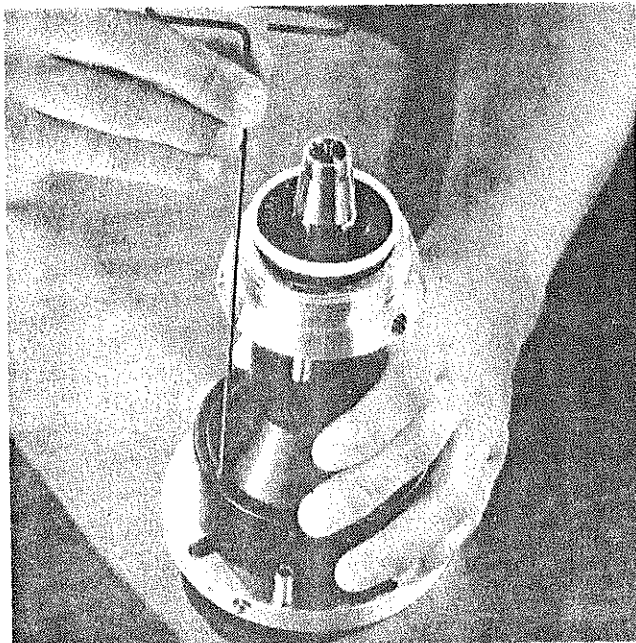

FIG. 7
2. Remove four M3X12 MM cap screws using 2½ MM hex allen wrench (Fig. 7).